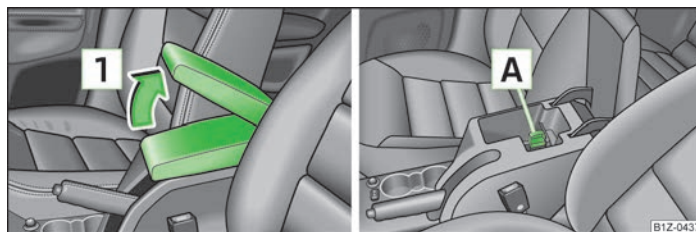

Fig. 78 Armrest: Storage compartment/cooling of storage compartment
- Open the lid of the armrest in the direction of the arrow **1** » Fig. 78.